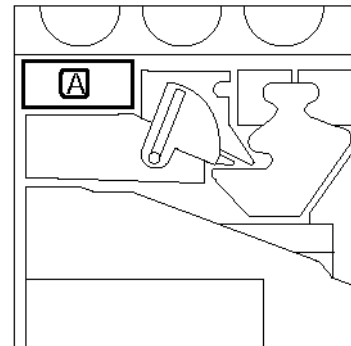

Figure 13: Locating the old Dry Ink Waste Container
- 3 Locate the Waste Container (area A in Figure 13) in the upper left of the printer/copier.